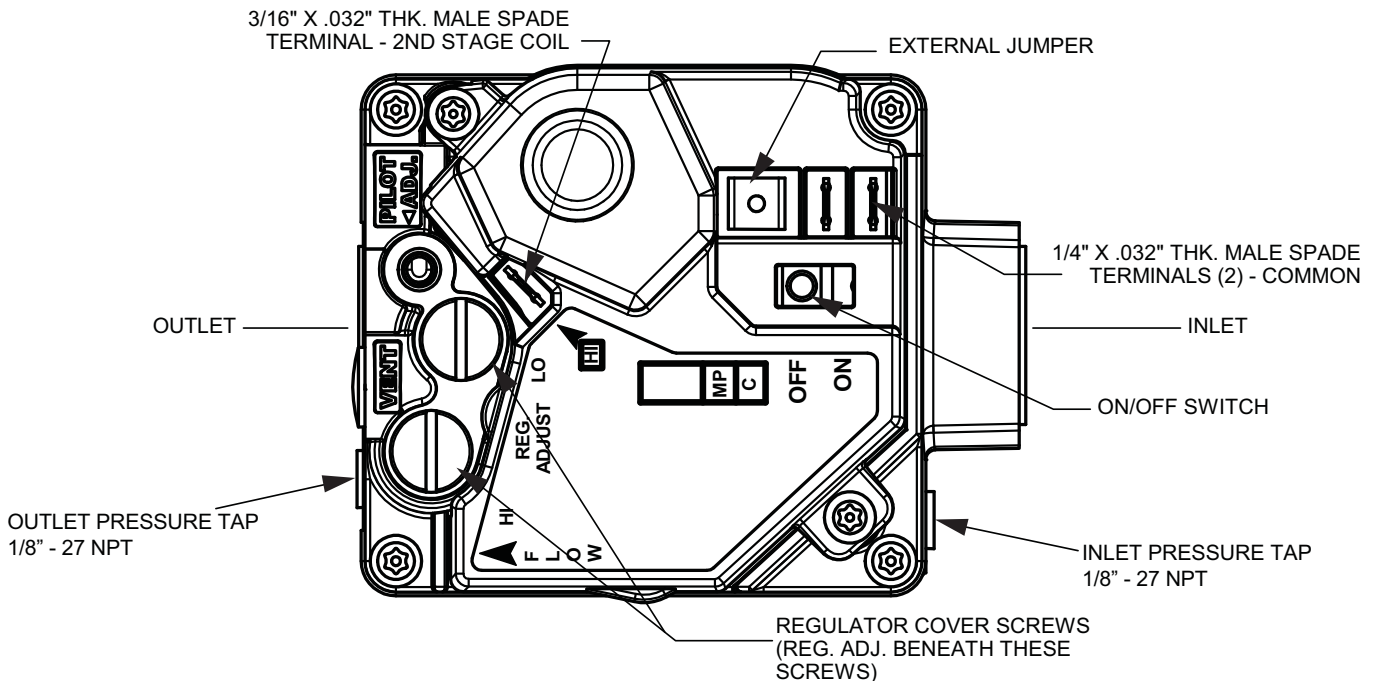

Figure 25: 7.5 Thru 12.5 Ton 3/4" Two Stage Gas Valve
4. Turn gas valve switch to "OFF" position (See Figure 25).
This gas furnace has two heat stages. Therefore, the gas valve has two adjustment screws located under two cover screws. The second stage adjustment screw is adjacent to the "HI" marking on the valve and the first stage adjustment screw is located adjacent to the "LO" marking on the valve (See Figure 25).